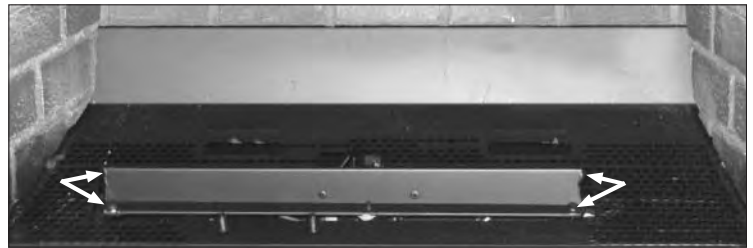

Figure 21: Unfastening Burner.
4. Using a T-20 screwdriver, remove the four (4) screws that hold the burner in place (pointed out in Figure 21). Slide the burner to the left (see Figure 22), then up and out of the firebox.